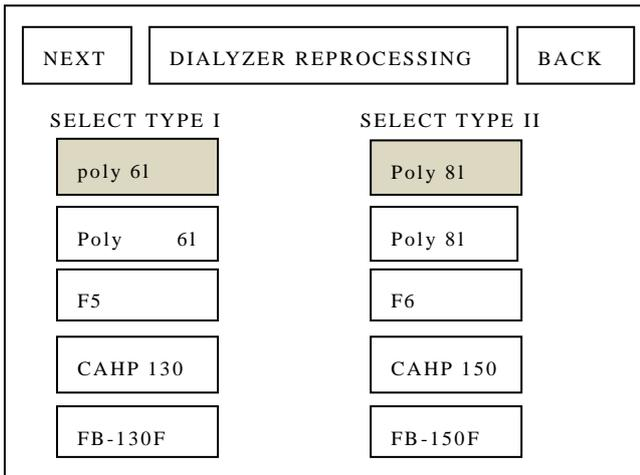
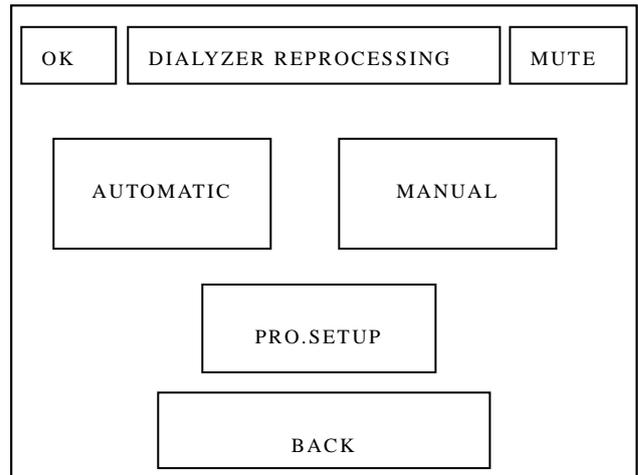
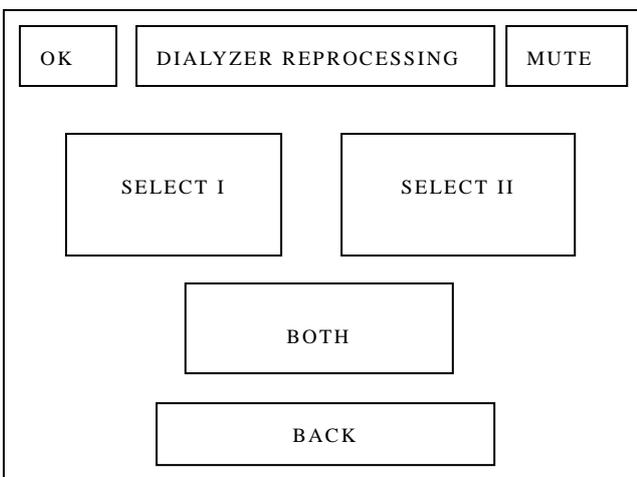
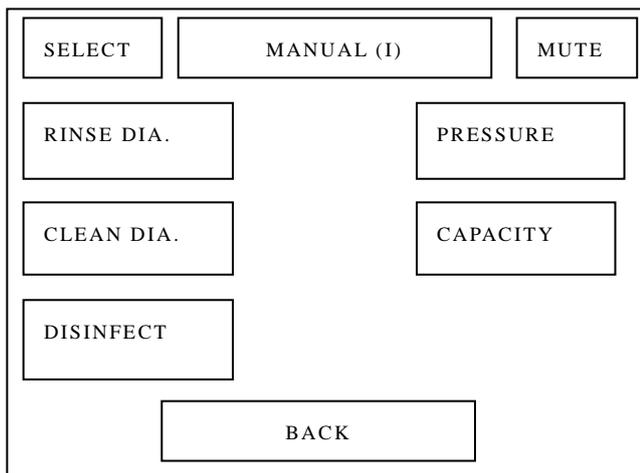

Figure 9-3
Figure 9-4
Figure 9-5
Figure 9-7
- (2) Select and press "DIALYZER" key in main menu, then the interface will skip into the next one as shown in Figure 9-3.
(3) Select and press one from the eight types, then the type name will appear in the black box, as the same operation in Type(II). (Note: Error or empty selection will cause incorrect blood leakage pressure and volume boundary.) Press “NEXT” in Figure 9-3 to the next interface as shown in Figure 9-4.
(4) “AUTOMATIC” means that dialyzer reprocessor’s procedure runs with set program automatically. Please press “AUTOMATIC” if there is no special situation as shown in Figure 9-4 and skip to Figure 9-5.
(6) “MANUAL” means that the user can select the step of rinsing、cleaning、pressure test、capacity test and affusing disinfectant and so on by userself. Press “MANUAL” in Figure 9-4, the interface will skip into Figure 9-7. Press “SELECT”, you can choose to do manual (I), manual (II) or manual (I,II).When you select one, you can press the button and go the step of rinsing, cleaning, disinfectant, pressure test and capacity test.